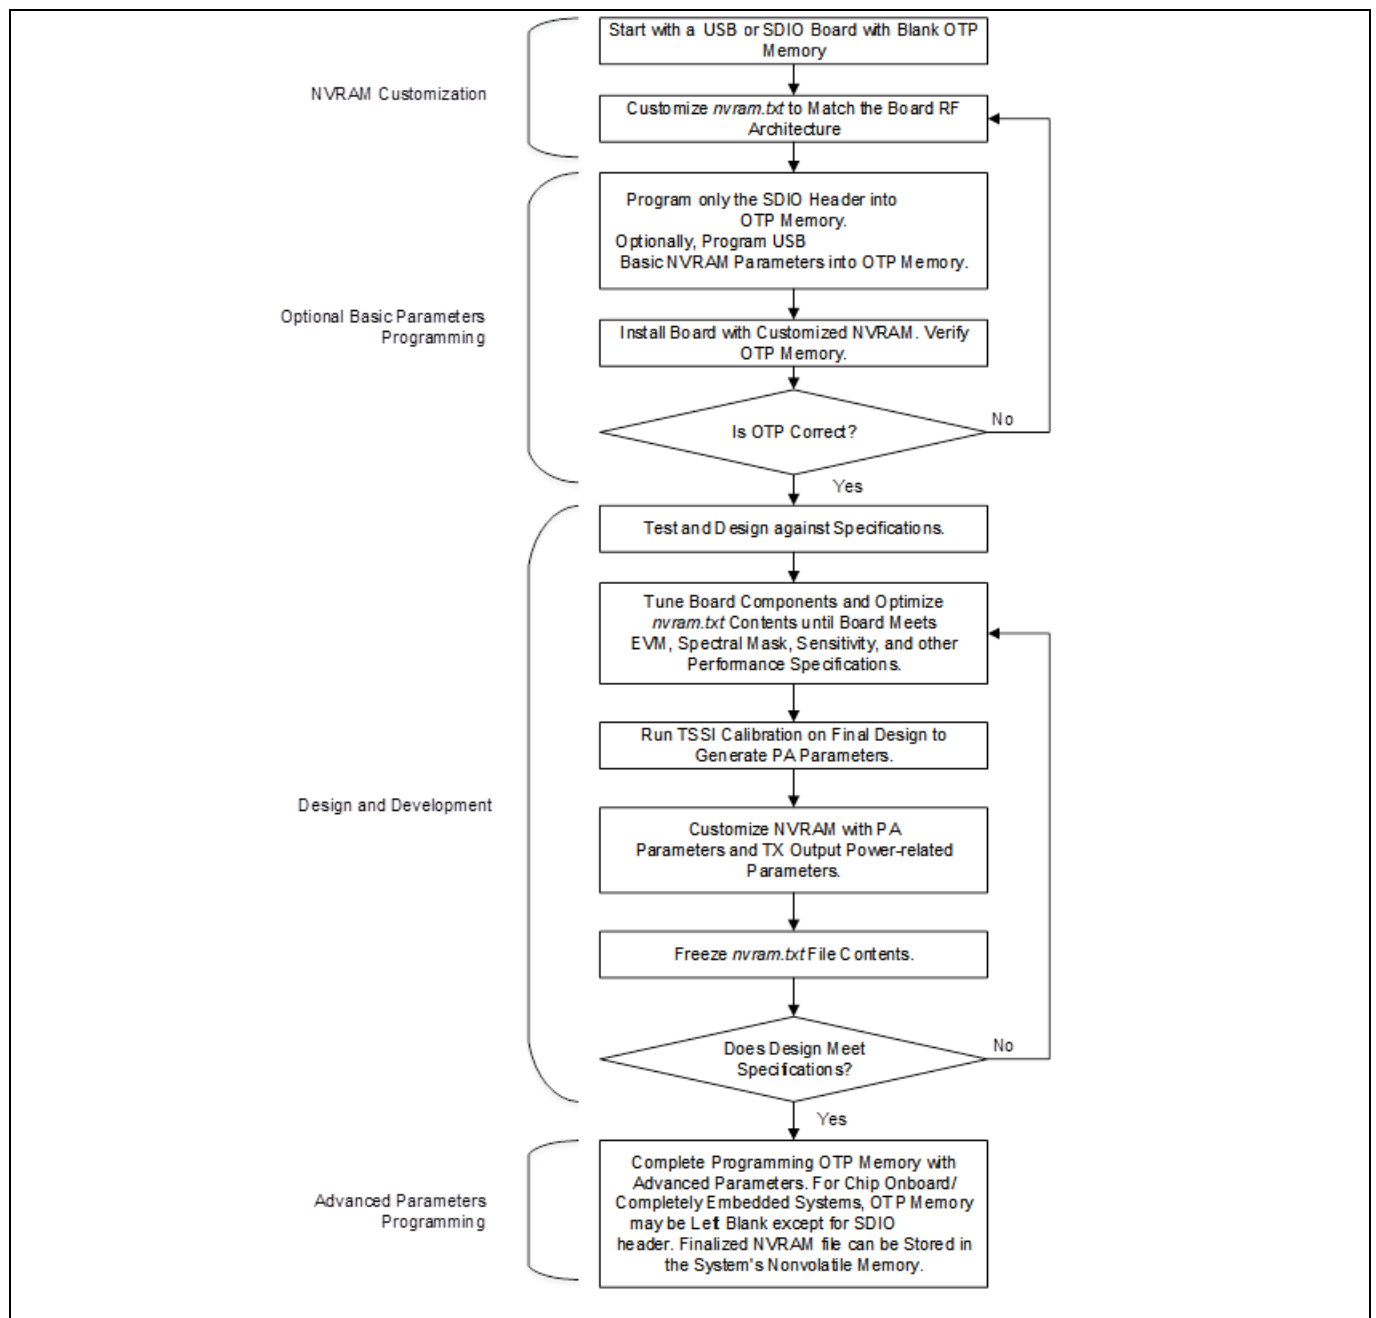

Figure 1 NVRAM development and programming flow of OTP memory
Figure 1 shows the *nvr.am.txt* file content development and the OTP memory programming flow. Parameters in the *nvr.am.txt* file can be divided into basic (see Table 3) and advanced (see Table 2) categories.
*Note:* Conduct the NVRAM development and OTP programming flow shown in Figure 1 on fewer boards/modules during the product development stage. Once this process is complete and the production version of the *nvr.am.txt* file and OTP memory file is approved for production use, programming can begin for high volume mass production as defined by each manufacturer.